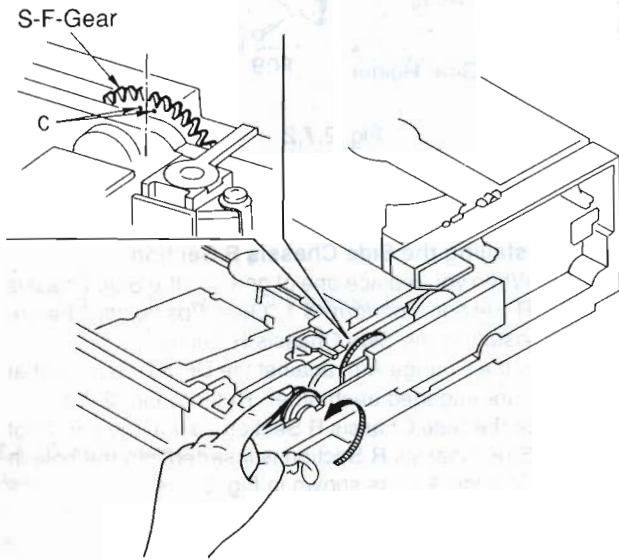

Fig. 2.5.2
- (1) Turn the pulley in the direction of the arrow until it stops. Refer to Fig. 2.5.2.
- (2) Turn the pulley in the opposite direction a little so that the center of two marks (holes) "C" on the S-F-Gear is in the vertical position. Refer to Fig. 2.5.2.